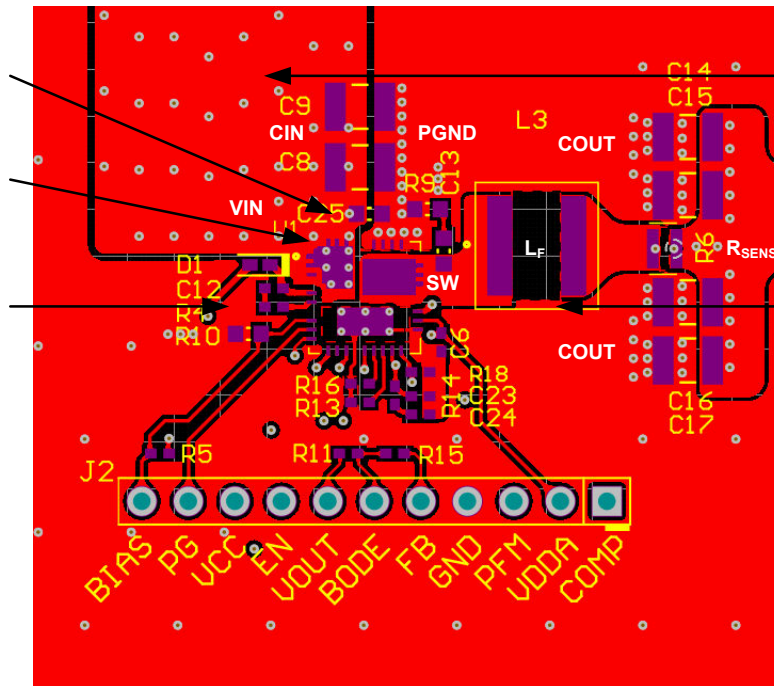

図 7-29. PCB Top Layer – High Density, Single-sided Design
The following list summarizes the essential guidelines for PCB layout and component placement to optimize DC/DC converter performance, including thermals and EMI signature. Figure 7-29 shows a recommended layout of the LM708x0 with optimized placement and routing of the power-stage and small-signal components.
- Use low-ESR ceramic capacitors with X7R or X7S dielectric from VIN to PGND. Place an 0402 capacitor close to VIN for high-frequency bypass as shown in Figure 7-29. Use additional 1206 or 1210 capacitors for bulk capacitance.